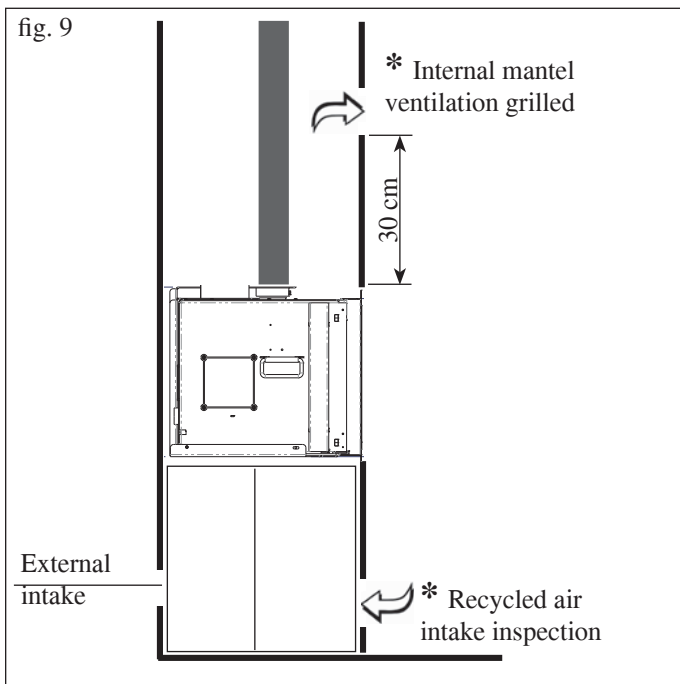

fig. 7
• Through the opening (**H**) set on top of INPELLET 49, remove the support screw (\*) and fit the smoke channel onto the smoke outlet (**F**), blocking it in place with the screw (\*) and sealing with high temperature mastic (fig. 7).